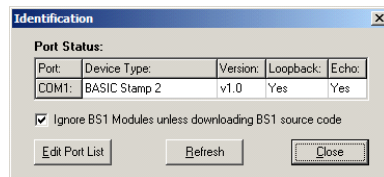

Figure 2.3: Test your PC connection to the BASIC Stamp.
- c) Test your PC's connection to the BASIC Stamp by selecting Run → Identify from the menu bar, as shown in Figure 2.3. If the BASIC Stamp module is not found, check your power and cable connections and retry.